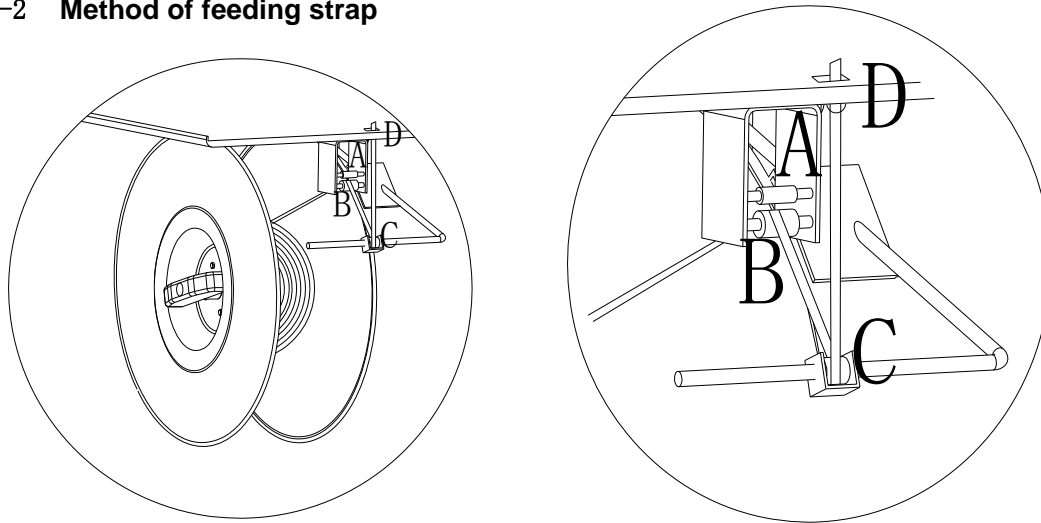

FIG 3-3
- ① Thread straps according to the method in the FIG 3-3.